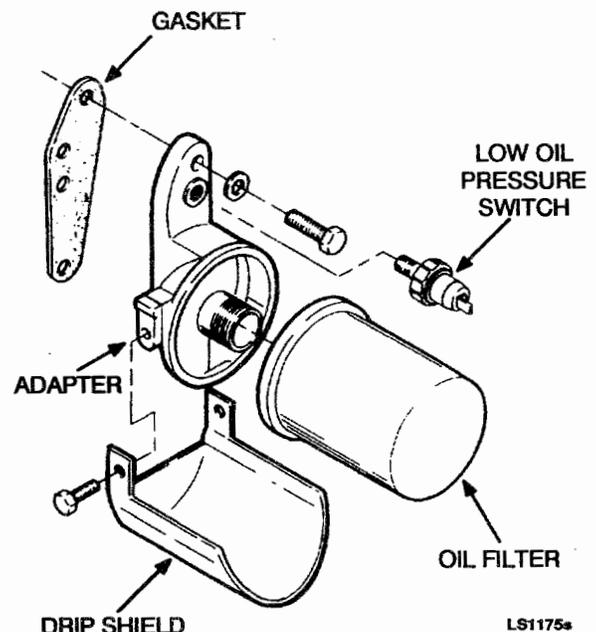

FIGURE 9-1. OIL FILTER AND ADAPTER (BGM SHOWN)
2. Remove the filter (see Figure 9-1) by turning it counterclockwise with Onan filter wrench 420-0550.